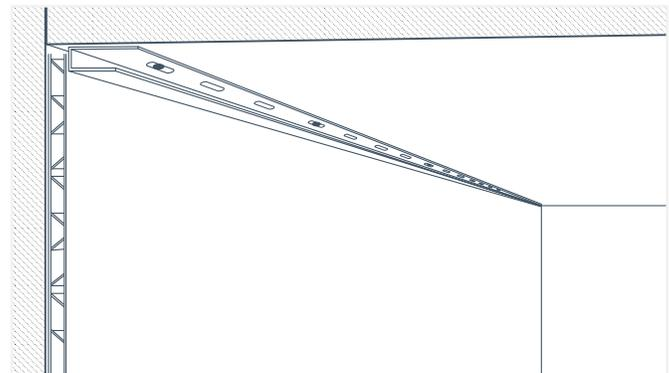

Fig. 20
1. Begin by installing J Trim around the perimeter of the ceiling. Place the trim against the wall panels with the channel facing away from it. Ensure it is pushed tight to the corner and then fasten it to the ceiling (Fig. 20).